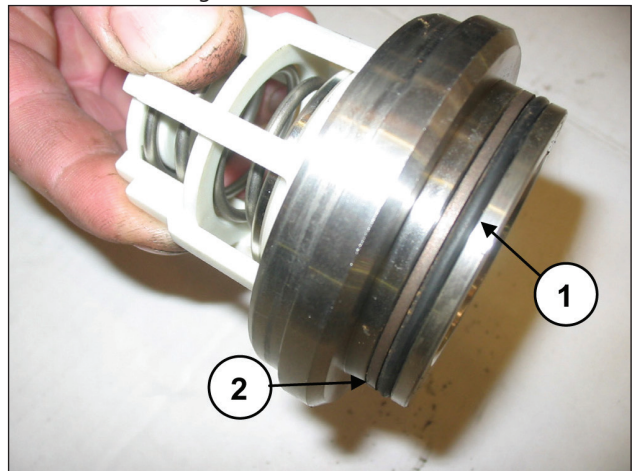

Fig. 106
Fit the O-ring, exploded view pos. 5 (pos. ①, Fig. 106) and back-up ring, exploded view pos. 15 (pos. ②, Fig. 106) on the outlet valve housing.